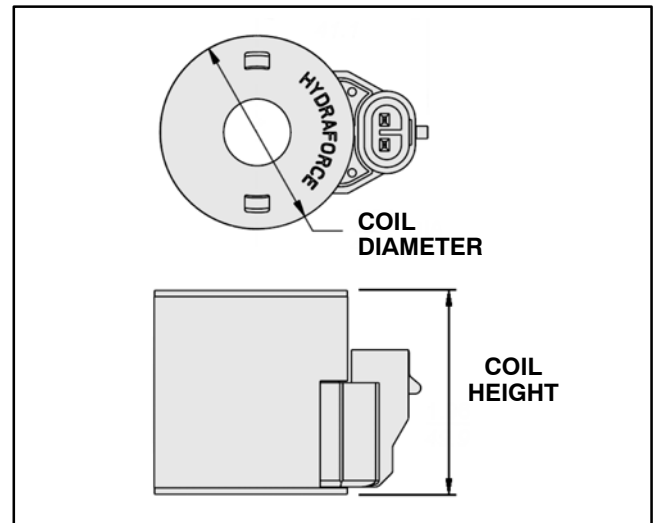

Figure 25
2. Identify coil resistance specification by measuring the coil diameter and coil height (Fig. 25).
3. Using a multimeter (ohms setting), measure resistance between the two (2) connector terminals on the solenoid valve coil. The correct resistance for the solenoid coil is identified below: